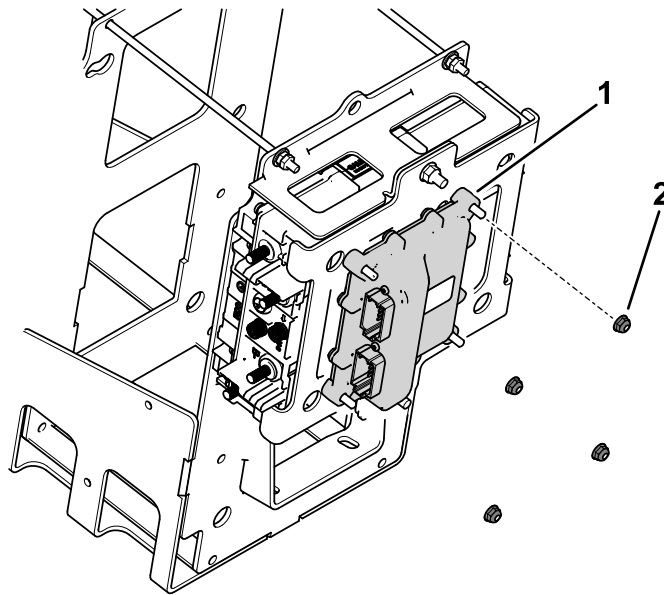

Figure 6
- Remove the nuts that secure the TEC controller to the battery tray (Figure 6). Retain the controller for later installation.